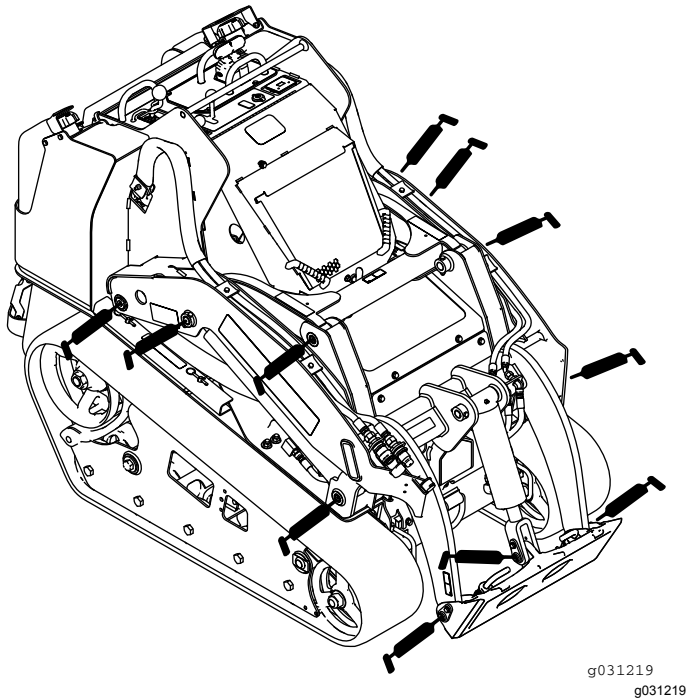
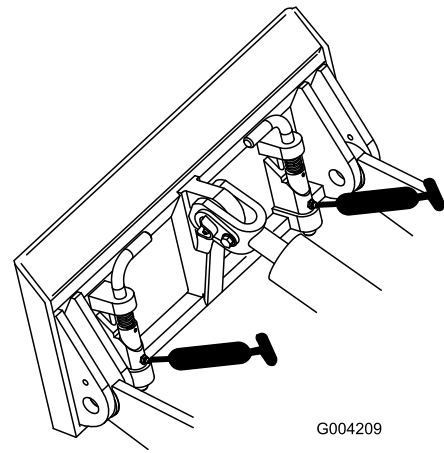
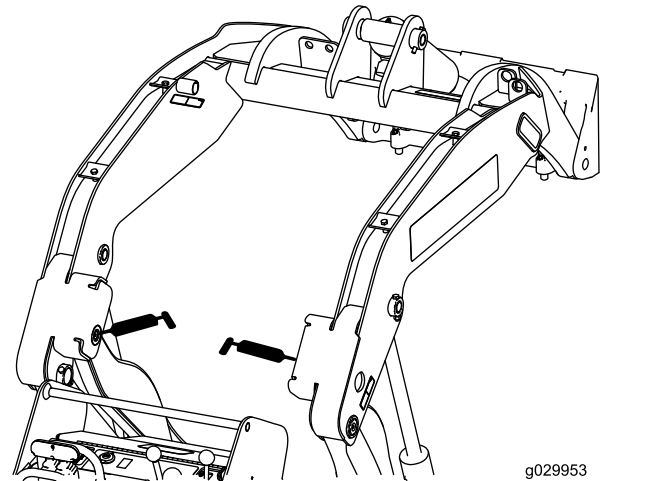

Figure 38
Figure 39
Figure 40
4. Connect a grease gun to each fitting (Figure 38, Figure 39, and Figure 40).
Note: Raise the loader arms before greasing the fittings in Figure 40.